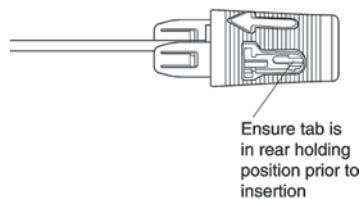
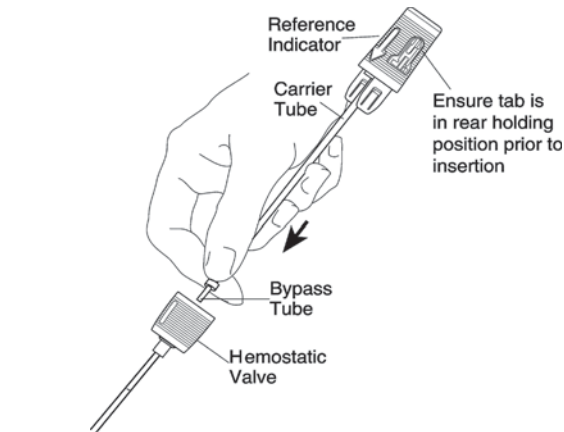

Fig. 6
Fig. 7
1. Confirm that the device sleeve has remained in the rear holding position, (Figure 6). Carefully grasp the Angio-Seal™ device at the bypass tube. Cradle the Angio-Seal™ carrier tube in the palm of the hand and, with the reference indicator facing up, slowly insert the bypass tube and carrier tube into the insertion sheath hemostatic valve (Figure 7).